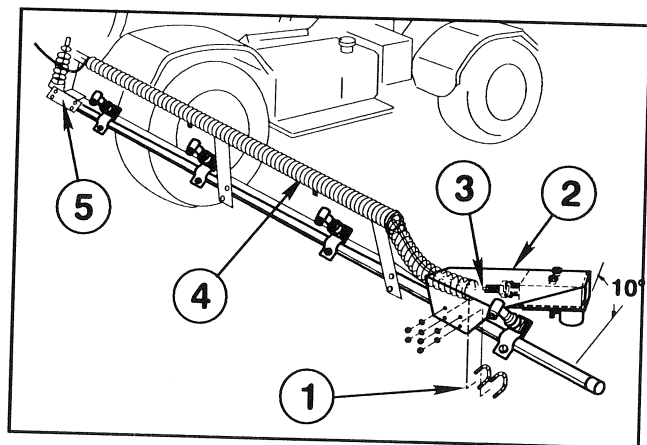

FIG. 1
1. Mount the Sensor Brackets to the Boom Pipes between the Vertical Support and the last Nozzle, using two (2) "U" Bolts, (4) locknuts, and flat washers. The Brackets should be tilted up 10°. Right side is shown in FIG. 1.
2. Route the Sonar Cords along the top of the Boom Support and toward the center of the Vehicle. Install Corrugated Split Tubing over Sonar Cable and Boom Support. Use Tie Straps to secure the Sonar Cords and Corrugated Tubing to the Boom Support at each end and at the center. Allow sufficient slack in the Sonar Cord at the Boom Hinge to permit the Boom to pivot freely. See FIG. 1